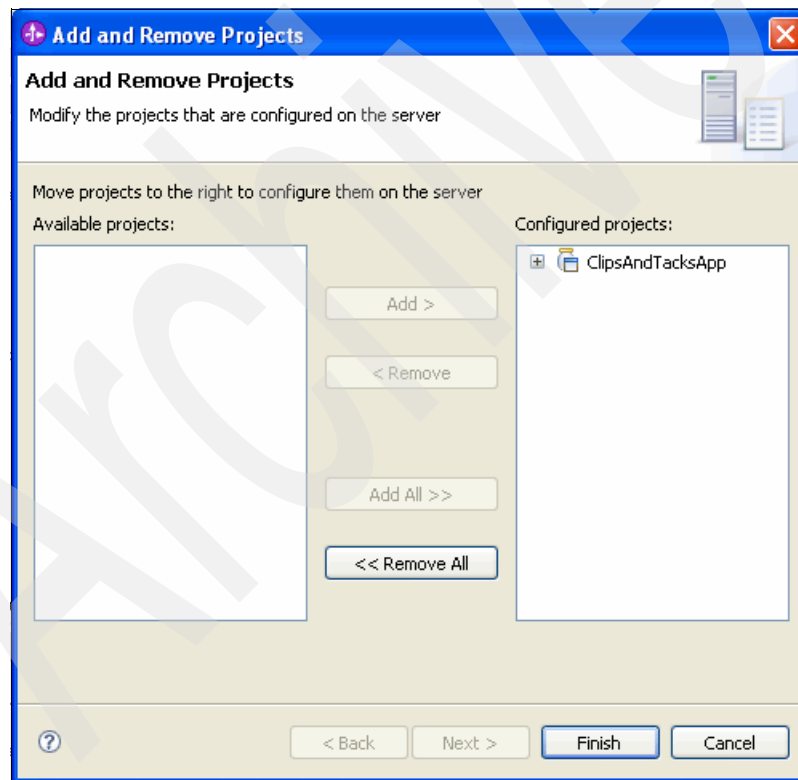

Figure 6-37 Add and Remove Projects window
2. In the Add and Remove Projects window (Figure 6-37), select **ClipsAndTacksApp** and click the **Add** button. Then click **Finish**.